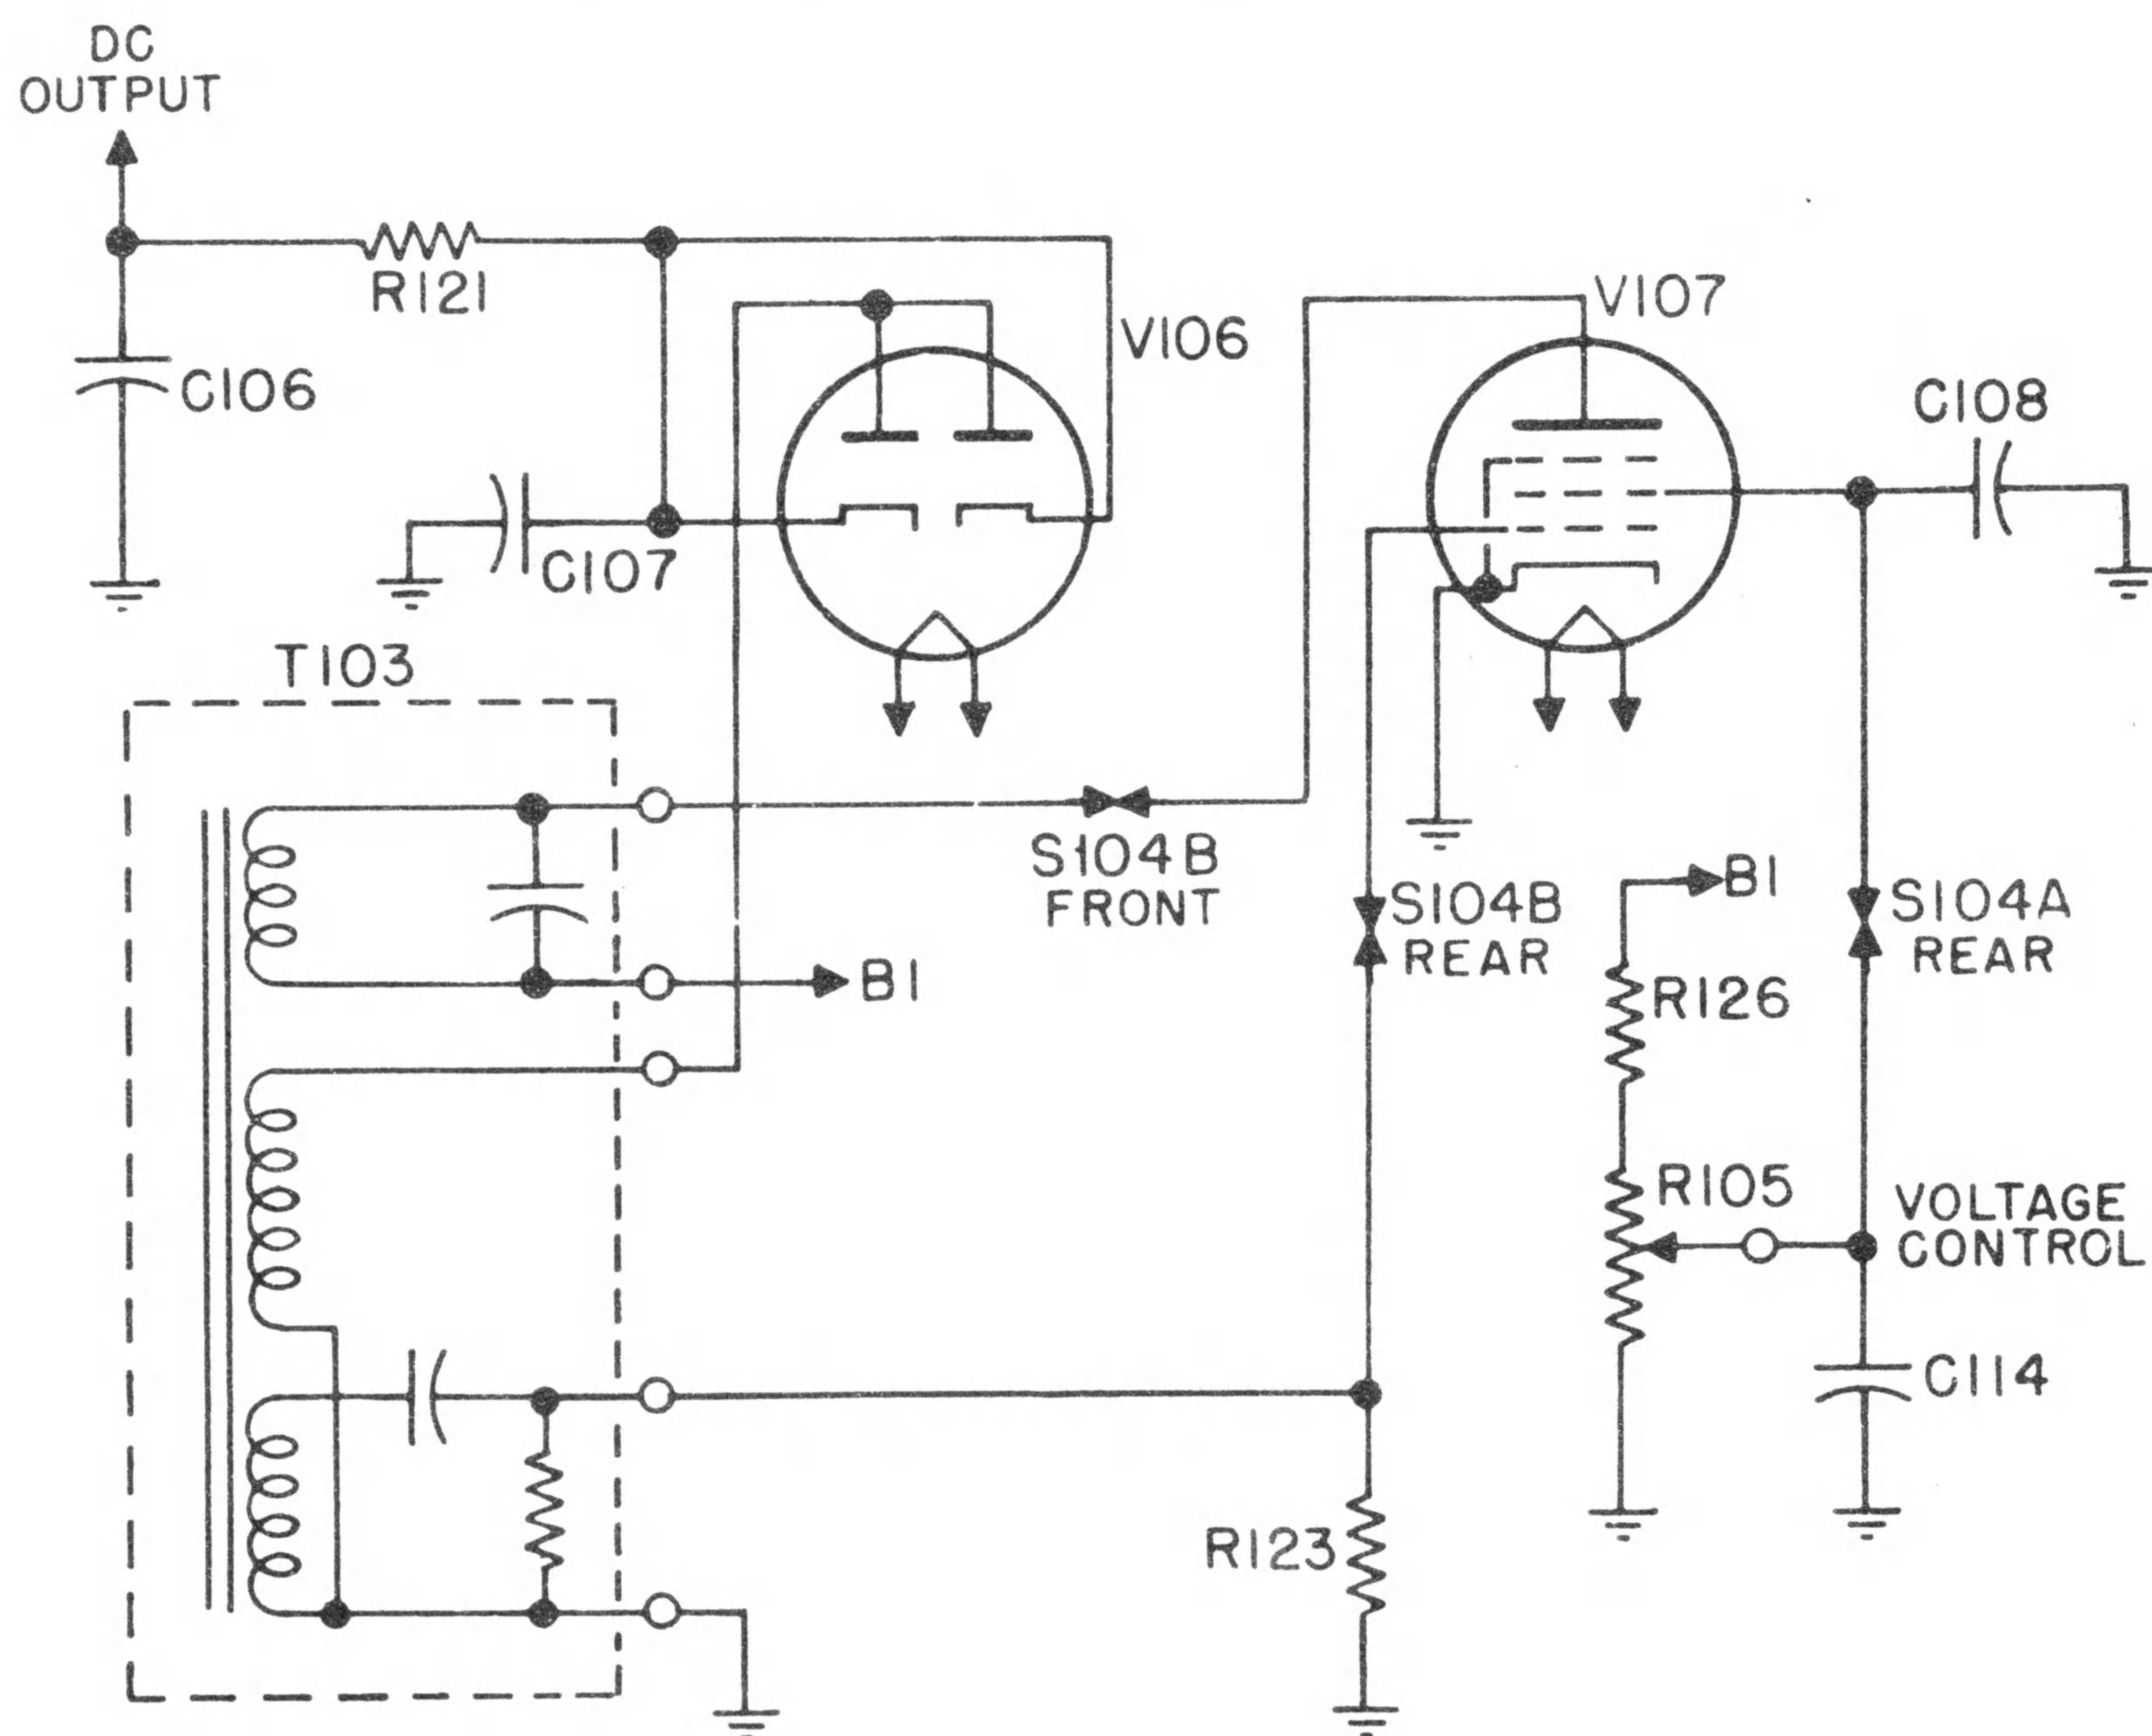

Figure 2-7. D-C Power Supply, RF Type.
b. In the Model ZM-11/U the battery function is by a power supply of the RF type. Figure 2-7 shows the circuit when the OSCILLATOR switch is in the D. C. VOLTS position. V107 cooperates with transformer assembly T103 to oscillate at about 300 kilocycles. It has a secondary winding of very high Q and inductance/capacitance ratio which develops a relatively high RF voltage. This is rectified by tube V106 and smoothed by a resistance-capacitance combination, R121, C107 and C106. Plate supply to the oscillator tube is at B1 corresponding to the d-c bus of the same marking in Figure 5-14. The amplitude of